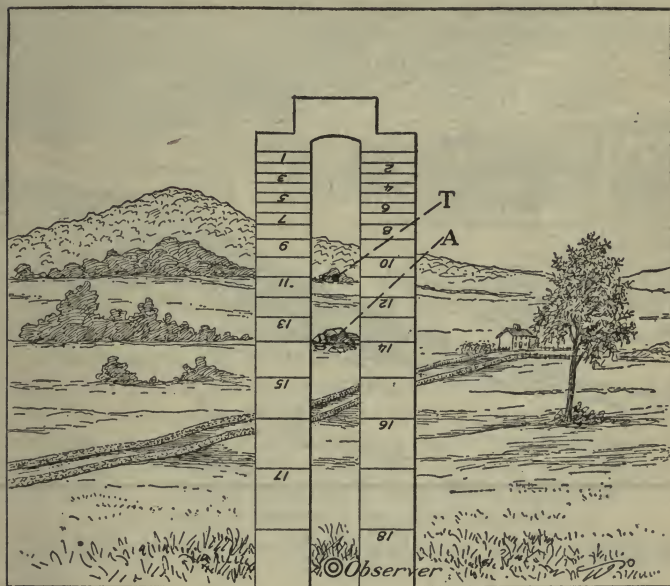

FIG. 34.—Auxiliary Aiming Point System.
**164. AUXILIARY AIMING POINT.** (Fig. 34.) "If the target cannot be seen with the naked eye, platoon leaders select an object in front of or behind it, designate this as the aiming point, and direct a sight setting which will carry the cone of fire into the target." (I. D. R.)